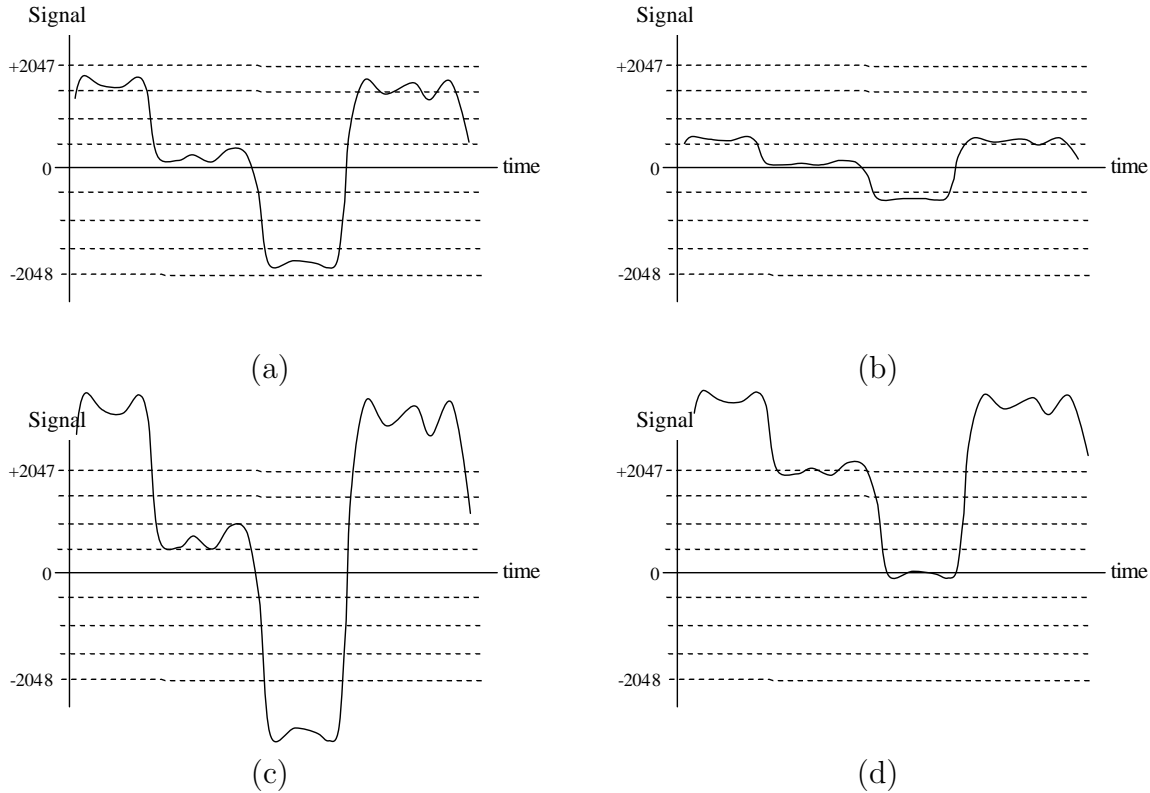

Figure 7: Setting up the amplifiers.
1. When the signal covers the whole dynamic range of the acquisition board (see Fig. 7.a), the maximum and minimum value showed by the **Data Display** are slightly smaller than ± 2047 . Thus, the **Gain** and **Offset** parameters are properly set up.
2. When the signal amplitud is very low (see Fig. 7.b), the signal is being quantified by a small number of levels. Thus, the values showed in the **Data Display** are much smaller than 2047. The **Gain** should be increased until the numbers are close to ± 2047 .
3. When the signal amplitud is very large (see Fig. 7.c), it is said that the board is being saturated. Signal variations outside the dynamic range can not be measured. The values showed in the **Data Display** are 2047 and -2048. The **Gain** should be reduced until the numbers are close to ± 2047 .
4. When the signal is not centered in the dynamic range of the board (see Fig. 7.d), one of the values showed in the **Data Display** is close to zero and the other can be close to ± 2047 . The **Offset** should be changed until both the maximum and minimum are close to ± 2047 .